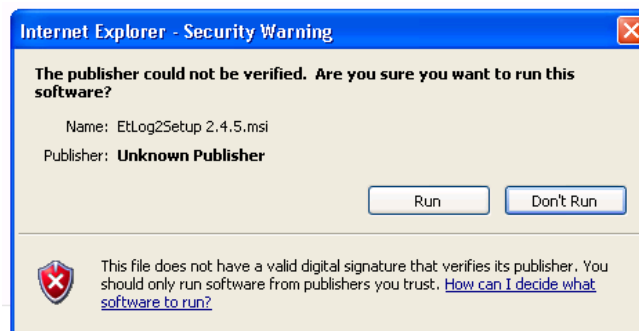

Fig. 1 Windows pop-up window with security warning and then choose the default installation location.
STEP 2. After clicking the downloaded file, the Windows system message window will pop up on the screen (Fig. 1). Select the **[Run]** button and then follow the instructions on the screen.